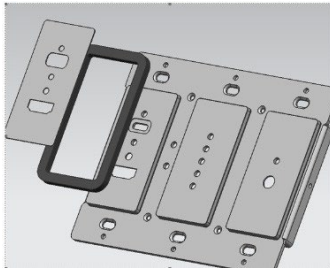

FIG. 2 N2625-WP WALLPLATE DECODER
3. Place the alignment tool around the faceplate where the insert will be applied. (Fig. 2)
4. Remove the adhesive from faceplate insert and place the insert within the alignment tool. (Fig. 2)